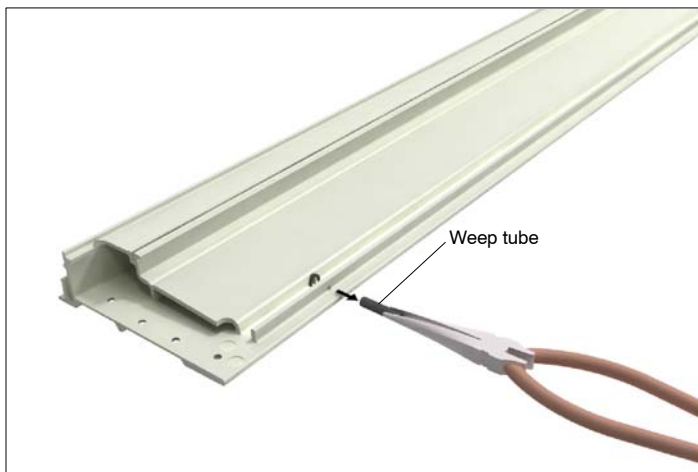

Figure 1
1. Grasp the exposed end of the current weep tube with a needle nose pliers and pull to remove. See figure 1.